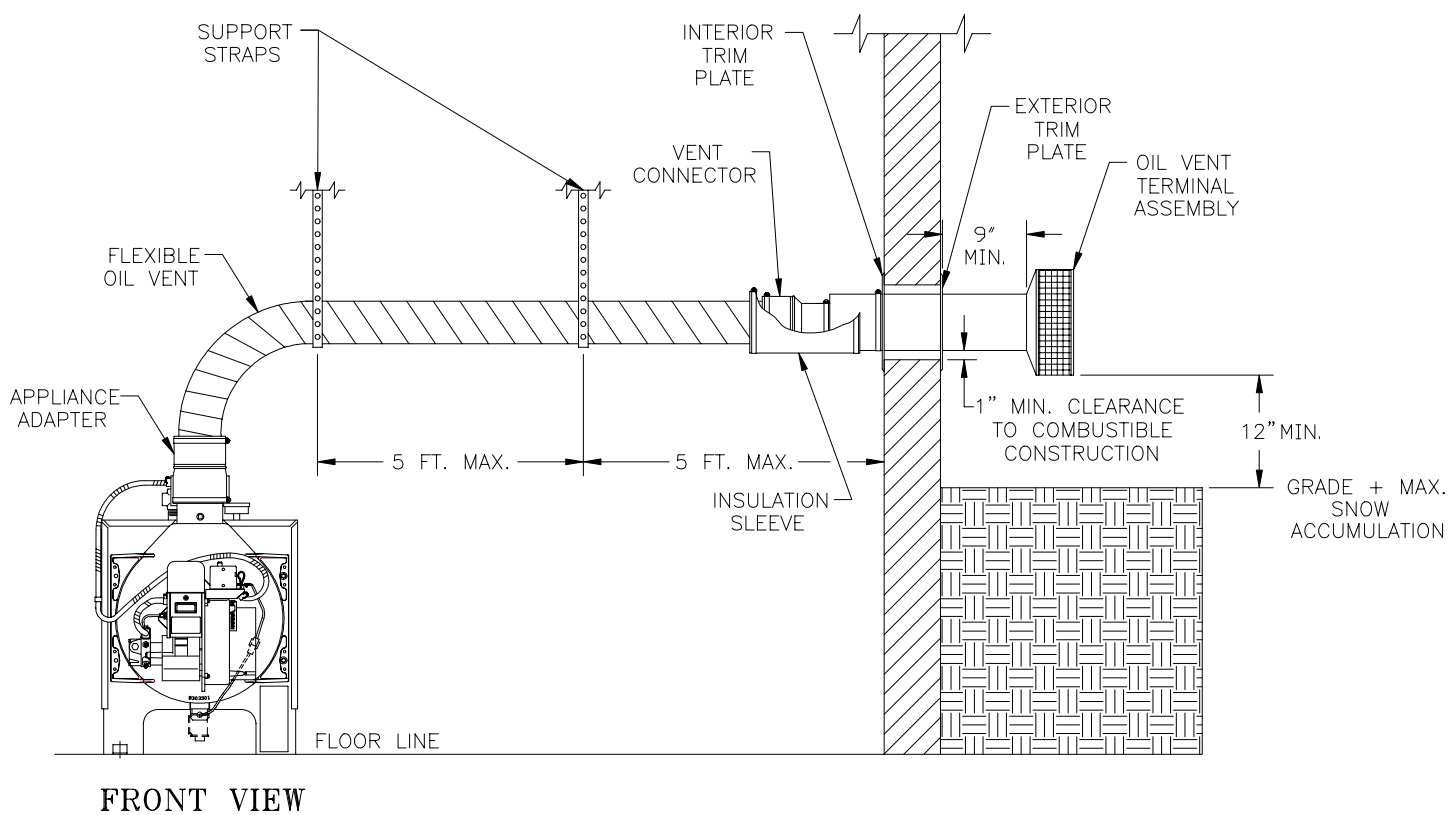

Figure 10: Vent Installation
2. The LEDV Series is designed as a Direct Vent boiler. In this configuration, all air for combustion is supplied directly to the burner from outdoors and flue gases are vented directly outdoors (through wall). See Figures 10 and 11. The LEDV may be side-wall vented with combustion air supplied from indoors. This configuration may be used in installations where infiltration provides adequate air for combustion and ventilation. Flue gases are still vented directly outdoors (through wall).
1. Install Vent Terminal. See Figure 10.